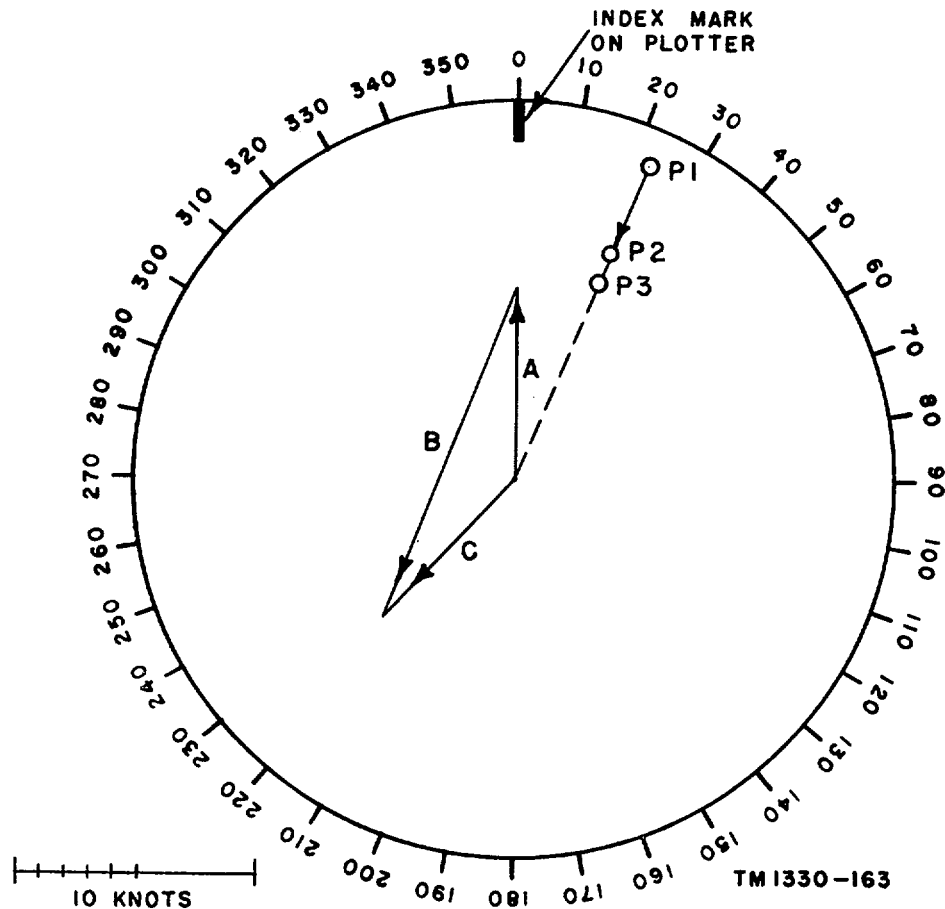

Figure 70. Radar plotting 3.
- (d) When a target is on a collision course, and you are the burdened vessel, the plotter may be rotated as your vessel changes course to allow continuous plotting of the target. Assume your own ship's speed is 8 knots and the radar range in use is 8 miles. A target off the starboard bow is plotted at 7.25 miles and 22° (point P_1 , fig. 70). Another plot is made 8 minutes later, and the target is at 5.25 miles with the same relative bearing of 22° (point P_2). To determine the target's course, speed, time of pending collision, new course, passing distance, and time of passing, proceed as follows: